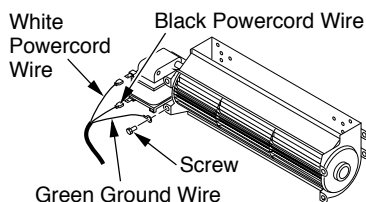

Figure 14 - Removing Wires from Blower
2. Disconnect power cord wires from blower motor (if connected) (see Figure 14).
3. Disconnect green ground wire from blower housing (if connected) by removing screw holding wire terminal (see Figure 14).
8. Attach the terminal ends of the white and black power cord wires to the terminals on the blower motor (see Figure 14). Push firmly.
9. Attach the terminal end of the green power cord wire to the front tab of the blower housing using screw provided (see Figure 14).